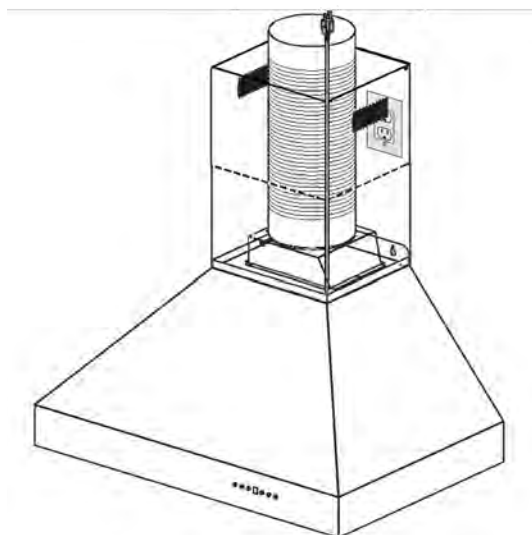

Figure 5
**NOTE:** Run the electrical cord up the chimney, outside of the ducting, and plug into a dedicated power outlet on the wall or in the attic. An outlet behind the chimney, to either the left or right, is ideal. *Figure 5, right*